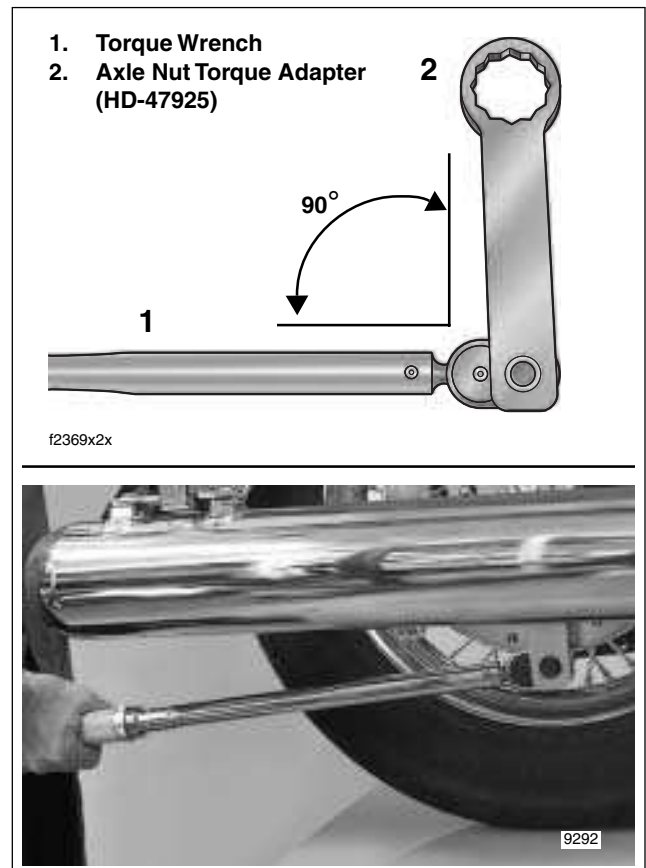

Figure 2-14. Install Tool Perpendicular to Torque Wrench
- a. Install torque adapter perpendicular to torque wrench as shown in Figure 2-14.